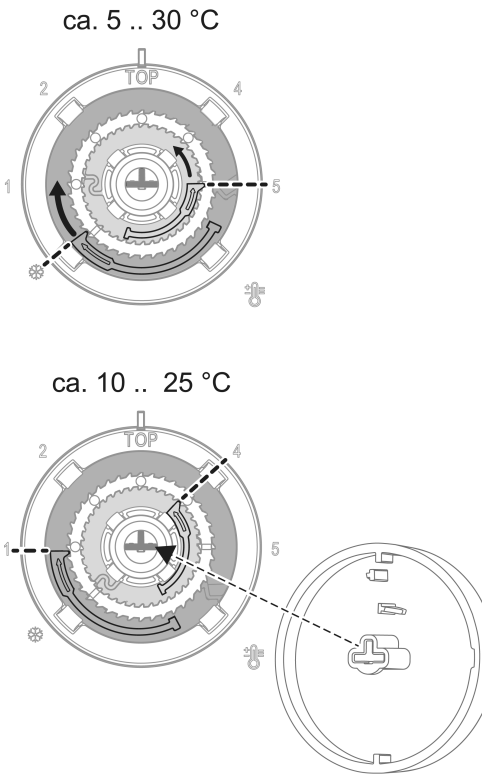

Figure 4: Setting the temperature limit (before/after)
- Pull the control knob off the central plate so that the adjustment rings are visible (Figure 4). Pulling off is done by hand or with a suitable tool, e.g. vacuum lifting tool or key cap puller.
- Replace the control knob, observing the coding (Fig. 4) of the rotary axle.